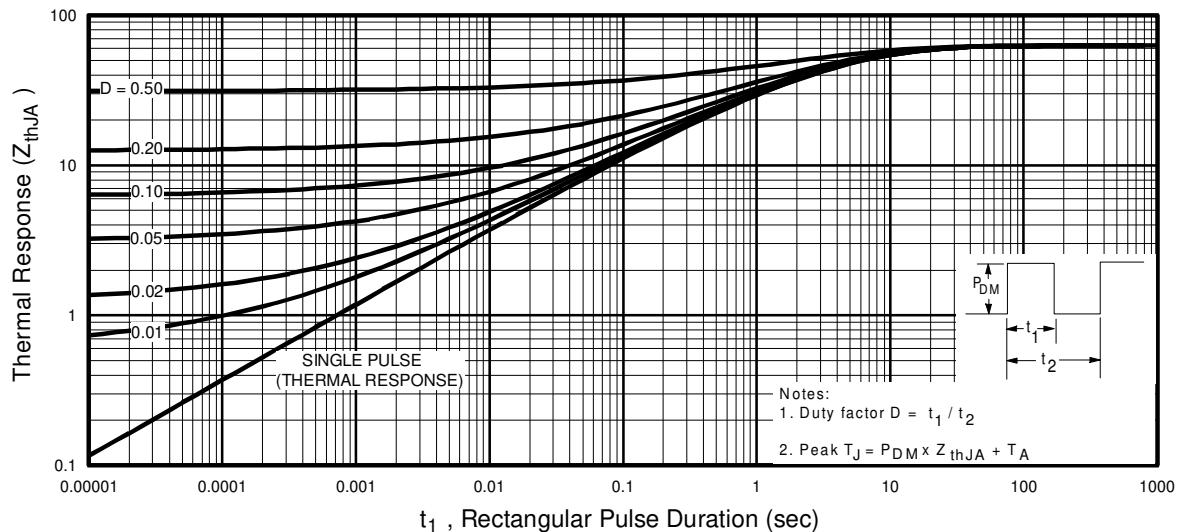

Fig 23. Maximum Effective Transient Thermal Impedance, Junction-to-Ambient
① Repetitive rating; pulse width limited by max. junction temperature. (See fig. 23)
② N-Channel $I_{SD} \leq 2.3\text{A}, di/dt \leq 100\text{A}/\mu\text{s}, V_{DD} \leq V_{(\text{BR})\text{DSS}}, T_J \leq 150^\circ\text{C}$